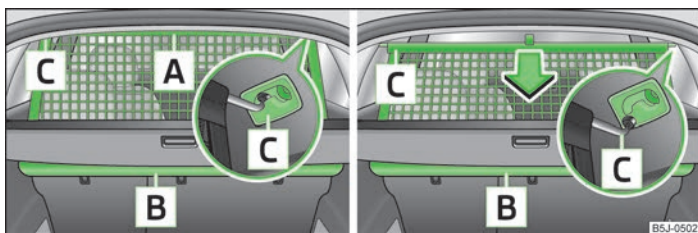
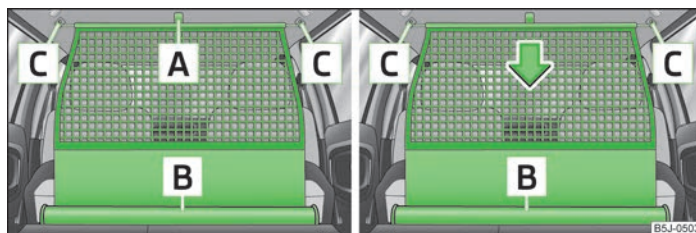

Fig. 53 Pull out the net partition/roll up
Fig. 54 Pull out the net partition/roll up
- Ensure that the cross rod is inserted into the mounts **C** » Fig. 53 on page 59 or » Fig. 54 on page 59 in the front position!
- › Pull the net partition by the bracket **A** » Fig. 53 out of the housing **B** in direction of the holders **C**.
- › First pull the cross rod back slightly on the one side and then on the other side and remove it from the mounts **C** » Fig. 53.
- › Pull the net partition by the bracket **A** » Fig. 54 out of the housing **B** in direction of the holders **C**.
- › First pull the cross rod back slightly on the one side and then on the other side and remove it from the mounts **C** » Fig. 54.